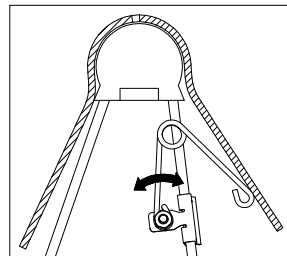

Figure F2: Cutaway view of driver side pivot arm and saddle.
2. **Set coupler angle.** Adjust the resting angle of your coupler plate by rotating the spring on the driver side pivot arm. Pulling the top of the spring away from the cab will increase the angle of the coupler plate. Set the angle of the coupler so that it will tilt away from the cab when coupling, see Figure F2. Tighten the 1/4" nut once the spring's orientation is set.